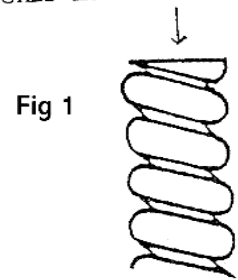

Fig 1
2. Grind the cut end of the cable with either a bench or angle grinder, so that the end is flat and at right angles to the cable (Fig 1.) Grinding off the end will allow the coupling to seat down properly against the cable, and will minimise the chance of snapping the coupling when fitting. As before, care must be taken to ensure the cable does not overheat whilst grinding. Remove any metal burr from the cable end with a file.